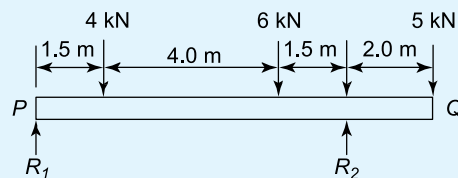

Figure 6.20
6. For the simply supported beam PQ shown in Figure 6.20, determine (a) the reaction at each support (b) the maximum force which can be applied at Q without losing equilibrium.